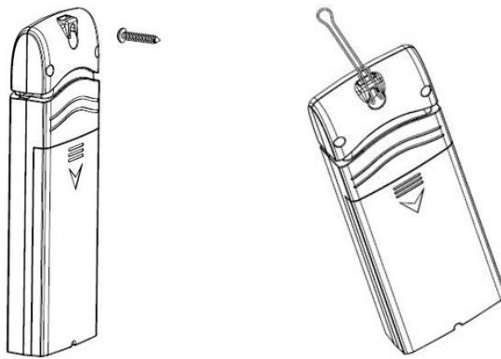

Figure 17: Indoor sensor mounting
- Use a screw or nail to affix the remote sensor to the wall, as shown on the left side of Figure 17, or
- Hang the remote sensor using a string, as shown in right side of Figure 17